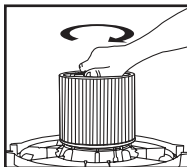

FIGURE 17
22. Hold the tank cover with one hand, turn the handle on the filter retainer clockwise to tighten, locking the filter into place. **FIGURE 17.**